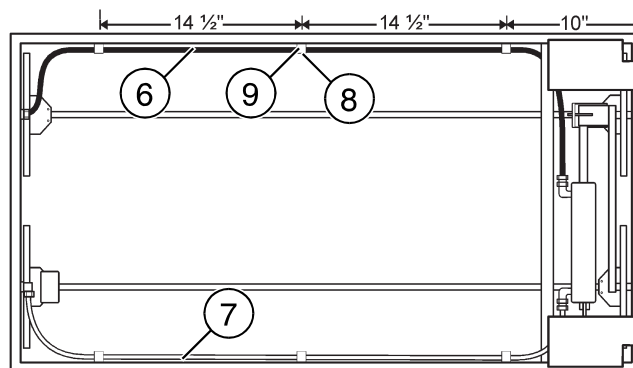

Figure 35: Installing the Tubing
Step 32: Cut Item 6 (1/4" black tubing) from the quick connect end, leaving 56" (142 cm) from the cut to the elbow and orifice. Ensure that the cut is uniform. Cut Item 7 (1/4" clear tubing) from the quick connect end, leaving 50" (127 cm) from the cut to the elbow and orifice. Ensure that the cut is uniform. Run the 56" of black tubing and the 50" of clear tubing (Items 6 and 7) from the front bearing panel along the top of the rack to the air cylinder (Figure 35). Use Items 8 and 9 to ensure a snug fit and avoid interference.